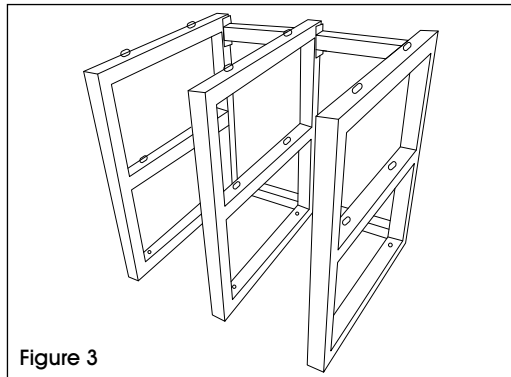

Figure 3
3. Repeat until rack is fully assembled. (See Figure 3)